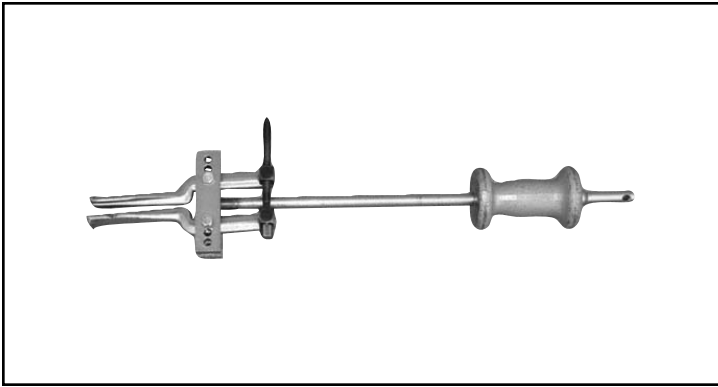

FIGURE 1
- A)** Remove all shaft related components from shaft (17) (i.e. keys, nuts). To aid in reassembly of the motor, make a “V” shaped set of lines from the endcover (15) to the housing using either paint or a marker. With shaft facing down, secure motor in vise by clamping on to housing (6).
- B)** Loosen and remove six bolts (16) holding motor assembly together. Remove endcover (15) and body seal (1). Discard seal. Remove commutator (14) and place on a flat, clean surface with the seal (4) facing up. Place a small screwdriver on the seal and gently tap until the opposite side lifts from the groove. Remove seal (4) and discard. Remove manifold (13). Remove rotor assembly (12). Remove both seals (1) from rotor assembly (12) and discard. Remove wear plate (11) and lay aside. Remove drive link (10) and thrust bearing (9) from housing. Remove body seal (1) from housing and discard.
- C)** Gently tap shaft (17) upward from housing (6) and remove through rear of housing. Using a slide hammer type bearing puller, (see Figure 1), remove the rear housing bearing (8). Remove shaft seal (2), thrust washer (3), and thrust bearing (7). Discard shaft seal (2), thrust washer (3), and rear housing bearing (8).